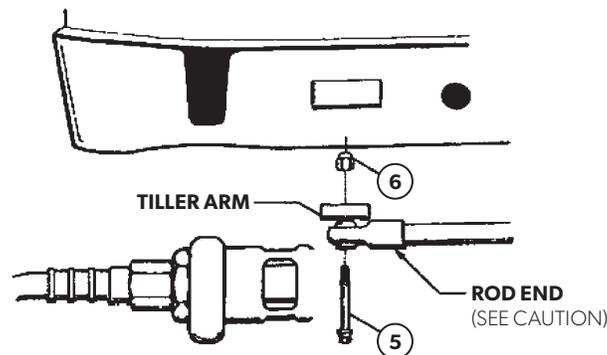

Figure 2.
- Use steering wheel to center steering system, then rotate motor to bring tiller arm over hole in rod end (see figure 2). Position rod end under tiller arm. Insert bolt (item 5) upwards through rod end and thread fully into hole in tiller arm as shown. Tighten securely. Thread on thin locknut (item 6) and tighten.